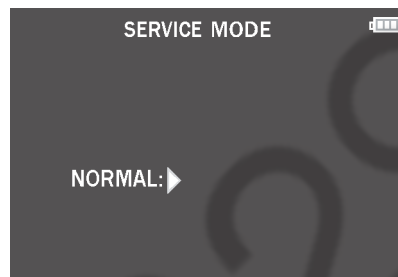

Fig. 3-1
- b. Turn the Power on pressing "[LEFT] of Cursor buttons" and [AF/AF LOCK] button simultaneously. LCD monitor displays "SERVICE MODE". (Refer to Fig. 3-1)